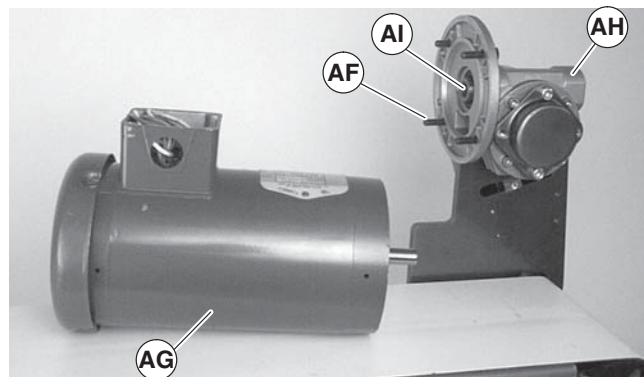

Figure 29
4. Remove four screws (Figure 29, item AF). Detach motor (AG) from gear reducer (AH). Retain motor output shaft key (AI).